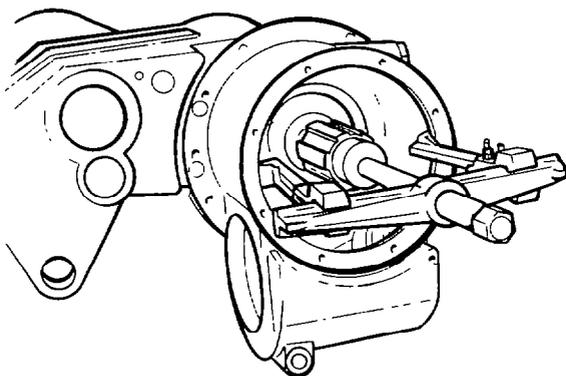

Figure 139 Removing the Gear Casing
- v. Remove the bolts securing the gear casing to the drum housing, remove the gear casing from the drum housing using a hub extractor or similar tool (see Fig 139).